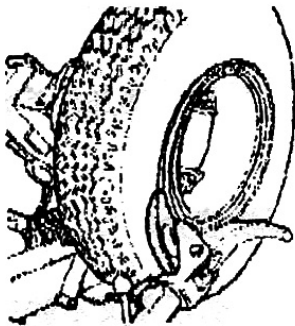

Fig2.13
- 3) Turn the tire, and move the tool arms towards inside. If the edge of the tire has been separated. Stop moving so that we couldn't damage the inside tire (Fig2.13).